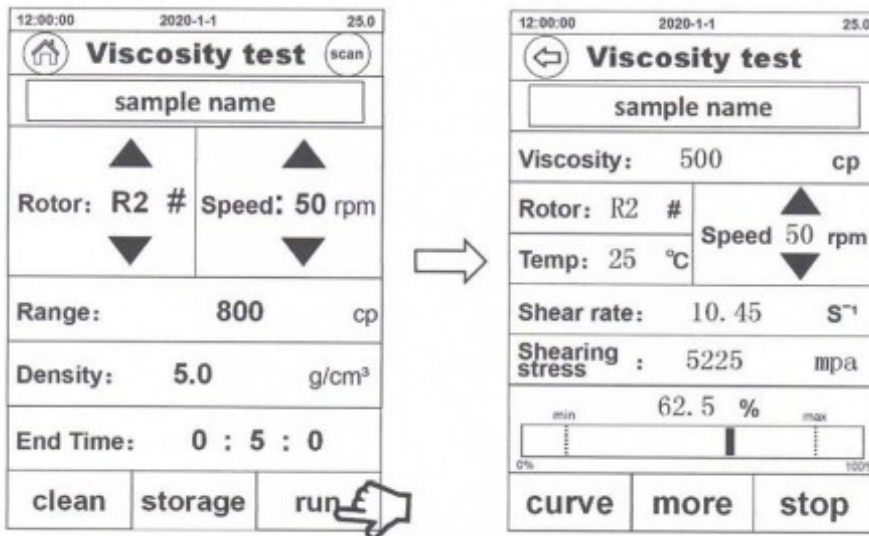

Fig. 19
3. Start the test: After the parameters are set, click “Run” to start the test, and the interface will switch to the test interface (Fig.19)